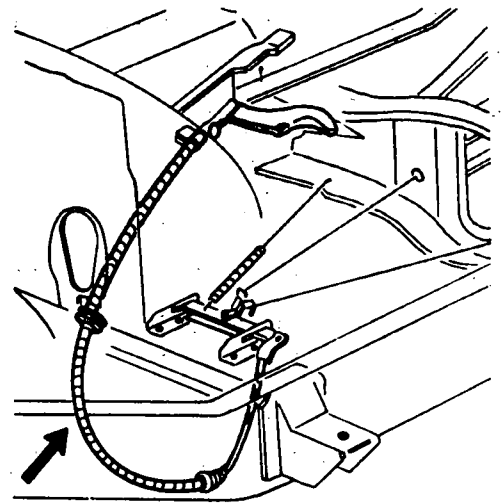

Fig. 1
- a) Disconnect the intermediate cable (fig. 1).